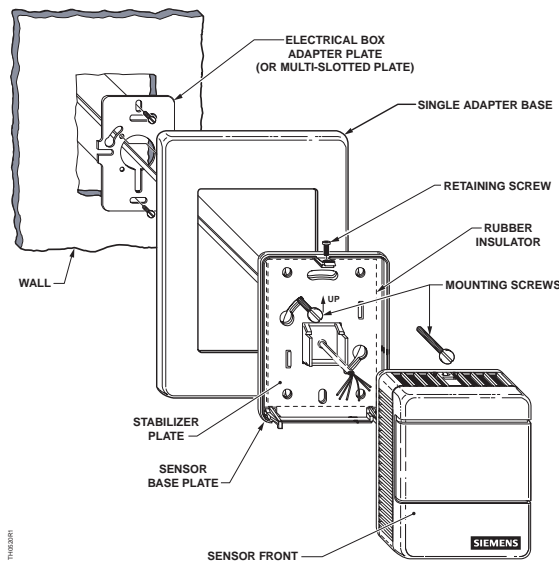

Figure 3. Typical Electrical Box and Rough-in Mounting.
3. If you have a single-sensor electrical box, install the electrical box adapter plate. See Figure 3.
If you use a universal adapter kit for a retrofit job, install the multi-slotted plate in place of the electrical box adapter plate. See Figure 3.
4. Pull the cable through the required mounting hardware in the order shown in Figure 3.